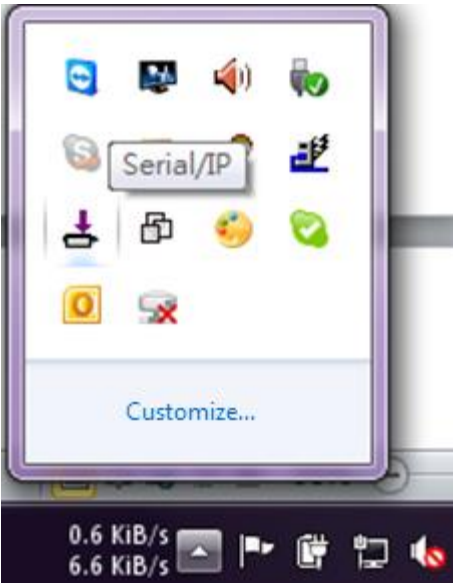

Figure 6.5 Serial/IP Tray Icon on Windows Notification Area
- 3) In the Windows notification area as shown in Figure 6.5, right click on the Serial/IP tray icon and click on Configure... menu to open the Serial/IP’s Control Panel.